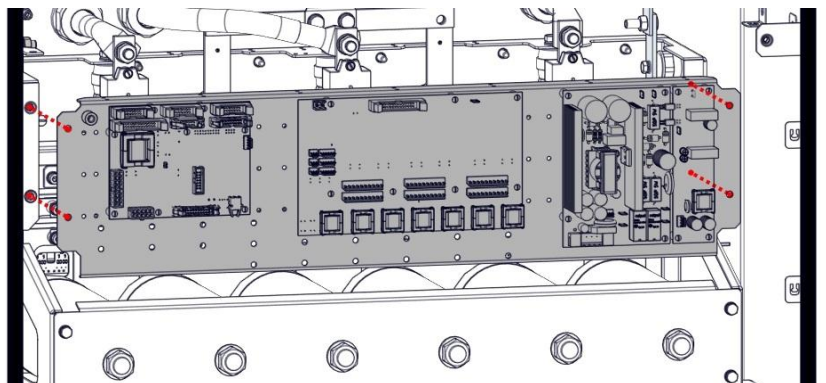

Figure 30 – Remove electronic units panel
3. Remove panel as shown on the figure 30, if necessary bite through (use side cutter) cable ties which fixing cables on panel.